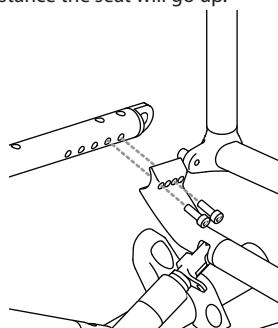

Figure 19.3 Seat height bracket adjustment.
- 1 Using the 5mm Allen key, remove the socket head cap screws on the upper frame crossbar, as shown. (See Figure 19.3)